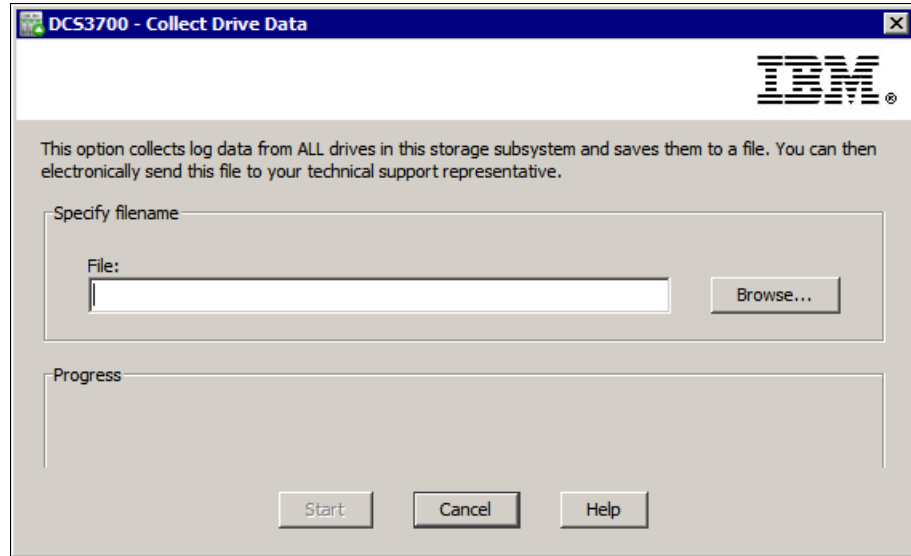

Figure 13-18 Collect Drive Data
1. In the DS Storage Manager (Subsystem Management) window, click **Monitor** → **Health** → **Collect Drive Data** → **All Drives...** to open the Collect Drive Data window, as shown in Figure 13-18.